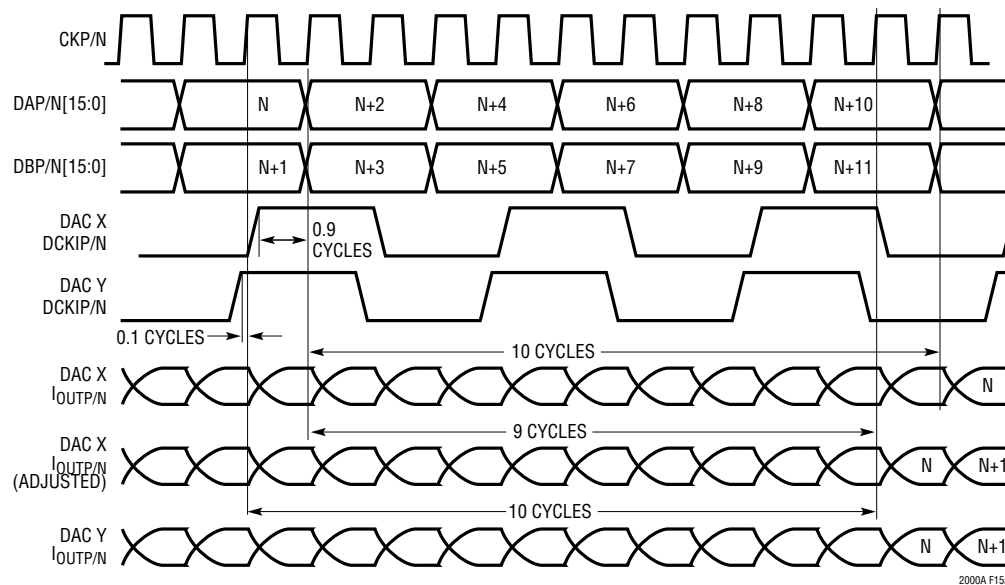

Figure 15a. Sample Waveforms — Synchronizing Multiple LTC2000As in Dual Port Mode
the default behavior is for the output of DAC Y to update with sample N one cycle earlier than the output of DAC X. It is possible to correct this misalignment and synchronize DACs X and Y by adjusting the clock synchronizer settings to subtract one cycle of latency from DAC X, as shown in the adjusted waveform at the bottom of Figure 15a. See the Clock Synchronizer section and Figure 7 for more details on the operation of the clock synchronizer.
Once all the DAC sample clocks and LVDS data clocks are aligned, determine whether any DACs are being updated one cycle late (such as DAC X in Figure 15a) by determining whether DCKIP/N is arriving at the DACs within the same CKP/N clock cycle. To do this in dual-port mode, first use the phase comparator outputs SYNC\_PH and Table 12 to determine the delay from the DCKIP/N rising edge to the next CKP/N rising edge for each DAC (measured in sample clock cycles).
Recall that the DCKIP/N timing mismatch must be kept below 0.4 cycles of the sample clock. If DCKIP/N arrives at both DACs within the same sample clock cycle, the difference in DCKIP/N to CKP/N delays indicated by SYNC\_PH will equal the actual DCKIP/N timing mismatch, and thus will be less than 0.4 cycles. If DCKIP/N arrives at the DACs within different cycles, as in Figure 15a, the difference in the delays indicated by SYNC\_PH will equal 1 cycle minus the actual DCKIP/N timing mismatch, and thus will be greater than 0.4 cycles. Thus if the difference between the delays indicated by SYNC\_PH is greater than
For the example in Figure 15a, we might read 0x25 for SYNC\_PH on DAC X and 0x52 on DAC Y. Table 12 tells us that the DCKIP/N to CKP/N delay is greater than 0.8 cycles for DAC X and less than 0.2 cycles for DAC Y, and thus the difference between them is at least 0.6 cycles. We conclude that the DCKIP/N rising edge of DAC X must fall within a later sample clock cycle than that of DAC Y, and thus that DAC X is being updated one cycle later than DAC Y.
In this example, reading register 0x06 of DAC X shows SYNC\_PH = 0x25 and that the SYNC\_PS setting needs to change from the default (10) to the desired adjusted value (00), subtracting one cycle from the latency of DAC X (refer to Table 12). Write 0x04 to register 0x05 of DAC X to set SYNC\_MSYN = 1 and SYNC\_PS = 00. The outputs of DAC X should now align with DAC Y as shown in Figure 15a. See Table 6 for details regarding the synchronizer registers 0x05 and 0x06. Sample verilog code implementing the synchronization of multiple LTC2000As using Tables 12 and 13 can be found at: